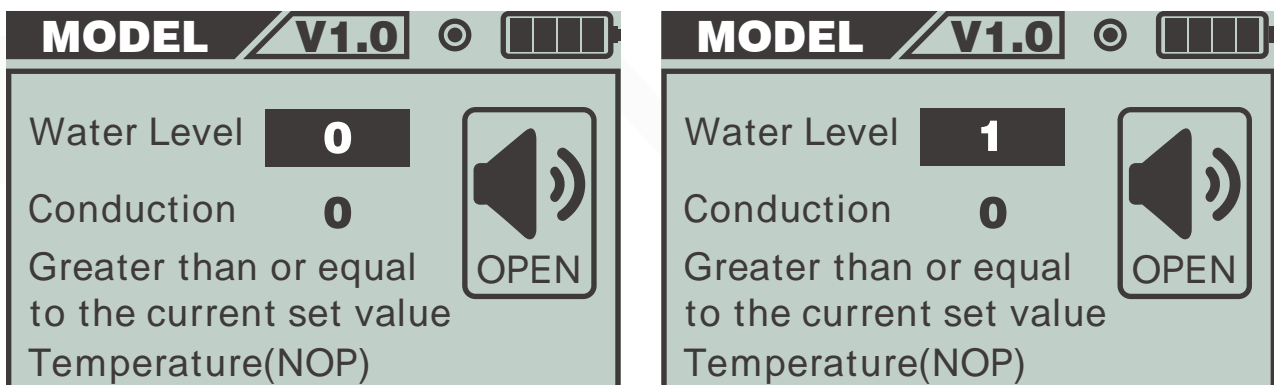

Figure 16. Device alarm parameter threshold setting diagram.
- The alarm is displayed in the upper left corner. Press Enter on the button menu to enter Figure 16, where Water Level represents the water level alarm threshold and Conduction represents the conductivity alarm threshold. Water Level is currently selected.